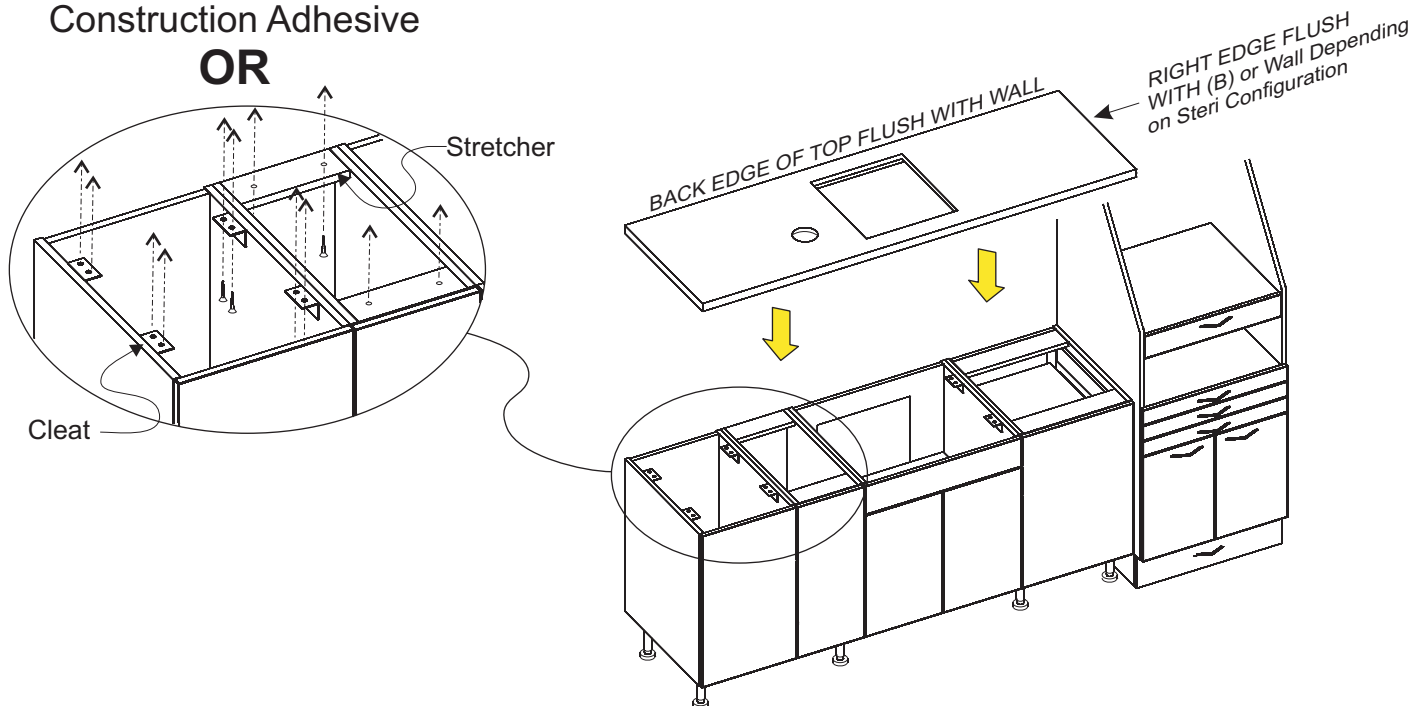

Figure 14
Place Laminated Work Surface onto cabinets with the back edge flush with the wall and the right edge flush with the Autoclave Tower (B) or against wall depending on configuration (see Figure 14). You can secure Work Surface by placing silicone or construction adhesive on stretchers or using #8 x 1-1/2" flat head screws through each Cleat and each Stretcher into the underside of the Work Surface (see Figure 14a).